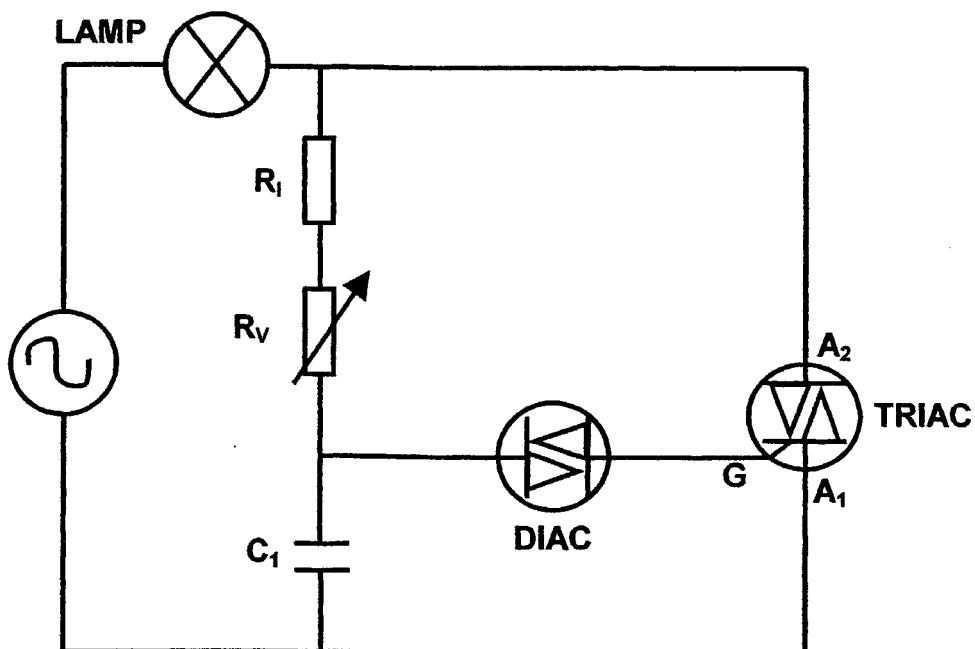

**FIGURE 6.1 – TRIAC lamp dimmer circuit**
- 5.4 Draw a neatly labelled phasor diagram of the circuit in QUESTION 5.3 (not to scale). (4)
- 6.1 FIGURE 6.1 shows a circuit of a TRIAC lamp dimmer. Describe the basic operation of the circuit.